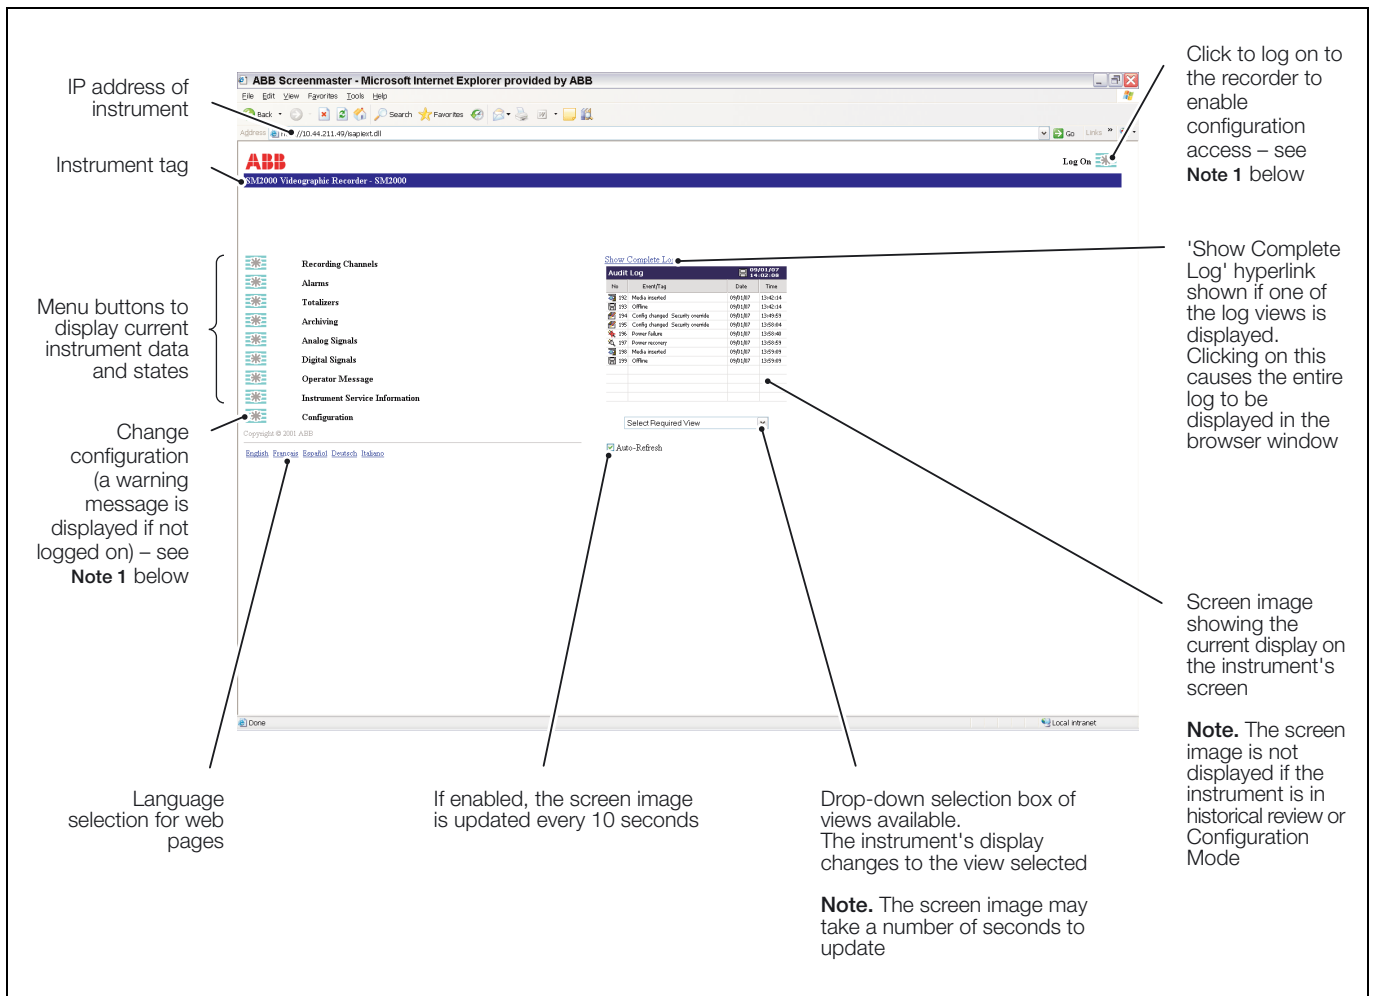

Fig. 5.1 Home Page
5.1 Web Server – Figs 5.1 to 5.9
Figs. 5.1 to 5.9 are examples of the page views available from the instrument's web server.